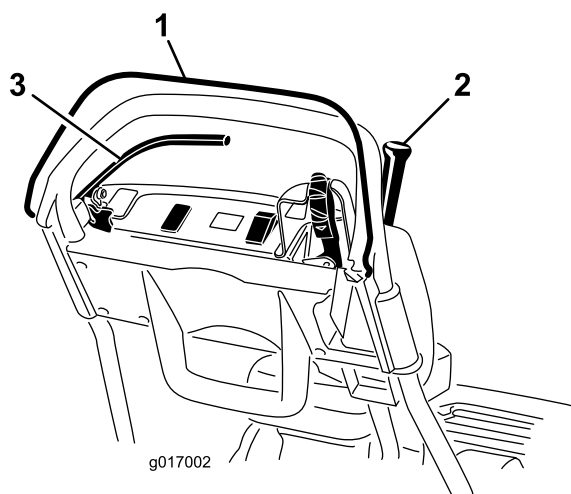

Figure 27
3. With the OPC released, attempt to engage the traction lever (Figure 27). The traction lever should not engage. If the traction lever engages, the interlock system needs service. Correct the problem before operating. Refer to Servicing Interlock Switches.
4. With the OPC depressed and the traction lever engaged, release the OPC (Figure 27). The traction lever should disengage. If the traction lever does not disengage, the interlock system needs service. Correct the problem before operating. Refer to Servicing Interlock Switches or Adjusting the Traction Control.
5. With the OPC depressed and the shift lever moved to the left, engage the traction and reel drive, release the OPC (Figure 27). The traction lever should disengage. If the traction lever does not disengage, the interlock system needs service. Correct the problem before operating. Refer to Servicing Interlock Switches,
6. With the OPC depressed and the shift lever moved to the left to engage the traction and reel drive, move the shift lever to the right to disengage the reel drive (Figure 27). The reel drive should disengage. If the traction lever does not disengage, the interlock system needs service. Correct the problem before operating. Refer to Adjusting the Reel Control.
2. With the OPC depressed, the traction lever engaged and the engine controls in the starting position (Figure 27). Attempt to start the engine. Engine should not start. If engine starts, the interlock switch needs service. Correct the problem before operating. Refer to Servicing Interlock Switches.
2. With the traction lever disengaged, the service brake engaged and the engine controls in the starting position (Figure 27). Attempt to start engine. Engine should start. If engine does not start, the interlock switch needs service. Correct the problem before operating. Refer to Servicing Interlock Switches.
3. With the engine running, engage the service brake (not the parking brake), depress the OPC and engage the traction lever (Figure 27). Engine should labor to overcome the brake but should not kill. If the engine kills immediately, the interlock switch needs service. Correct the problem before operating. Refer to Servicing Interlock Switches.
4. With the engine running, engage the parking brake latch, depress the OPC and engage the traction lever (Figure 27). Engine should kill. If engine does not kill, the interlock switch needs service. Correct the problem before operating. Refer to Servicing Interlock Switches.